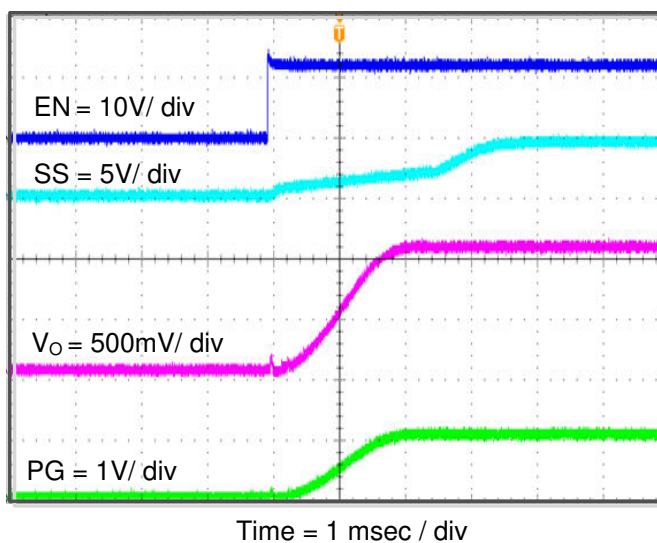

Figure 4-12. TPS562210AEVM-663 Start-Up Relative to EN
The TPS562210AEVM-663 start-up waveform relative to enable (EN) is shown in Figure 4-12. Load = 1 Ω resistive.